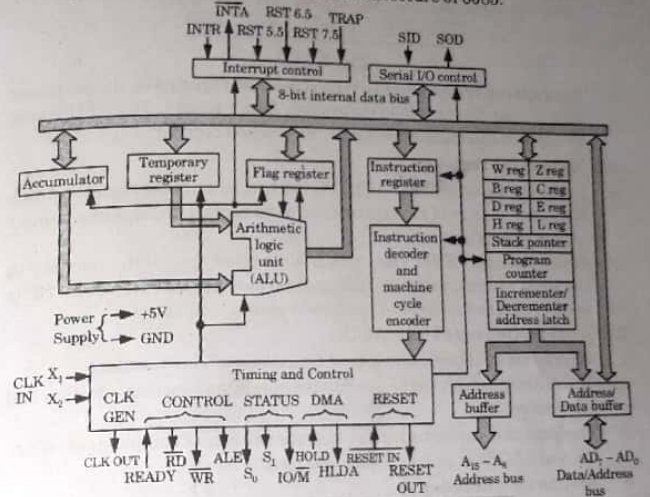

Fig. 2.3.1. Internal architecture of 8085.
B. **Internal architecture or functional block diagram**: The 8085 is an 8-bit, general-purpose microprocessor that is ideally suited to many applications. Fig. 2.3.1 shows the architecture of 8085.